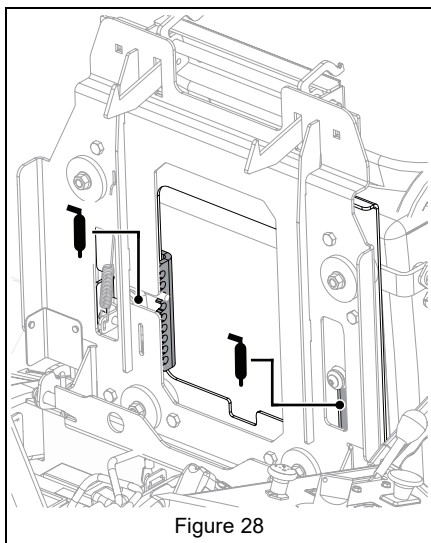

Figure 28
1. See Figure 28. Place unit in service position.